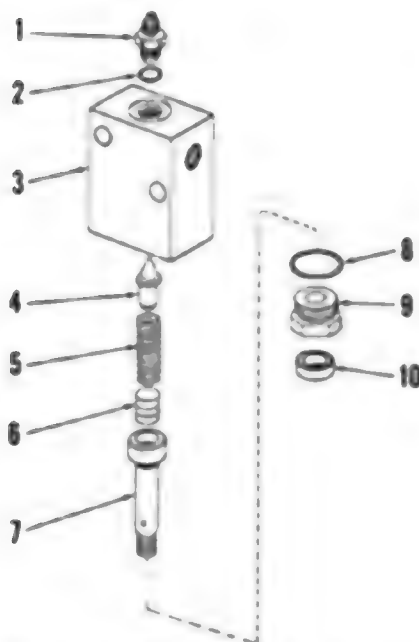

Fig. 132 - Exploded view of the Foot-N-Inch valve assembly.
**107. FOOT-N-INCH VALVE.** To disassemble the Foot-N-Inch valve, remove guide (9 - Fig. 132) with "O" ring (8) and oil seal (10). Withdraw stem (7), shims (6), spring (5) and poppet (4). Remove valve seat (1) with "O" ring (2).